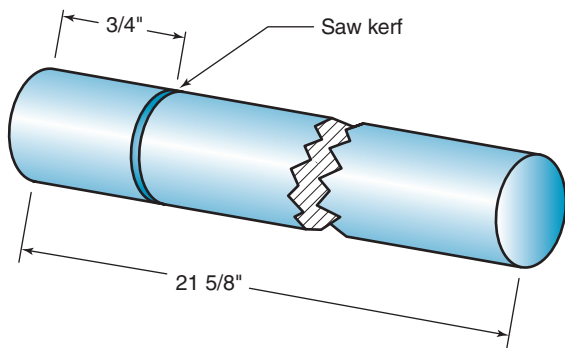

Figure 2-9 Problem 6.
6. You have been given a job that requires 25 parts made from a bar that is $21\frac{5}{8}$ in. long. Per Fig. 2-9, each part is to be $\frac{3}{4}$ in. long and each saw cut requires an additional 0.10 in. of material (called *kerf*). Can you make all 25 parts from the bar. If not, how many can you make from it?